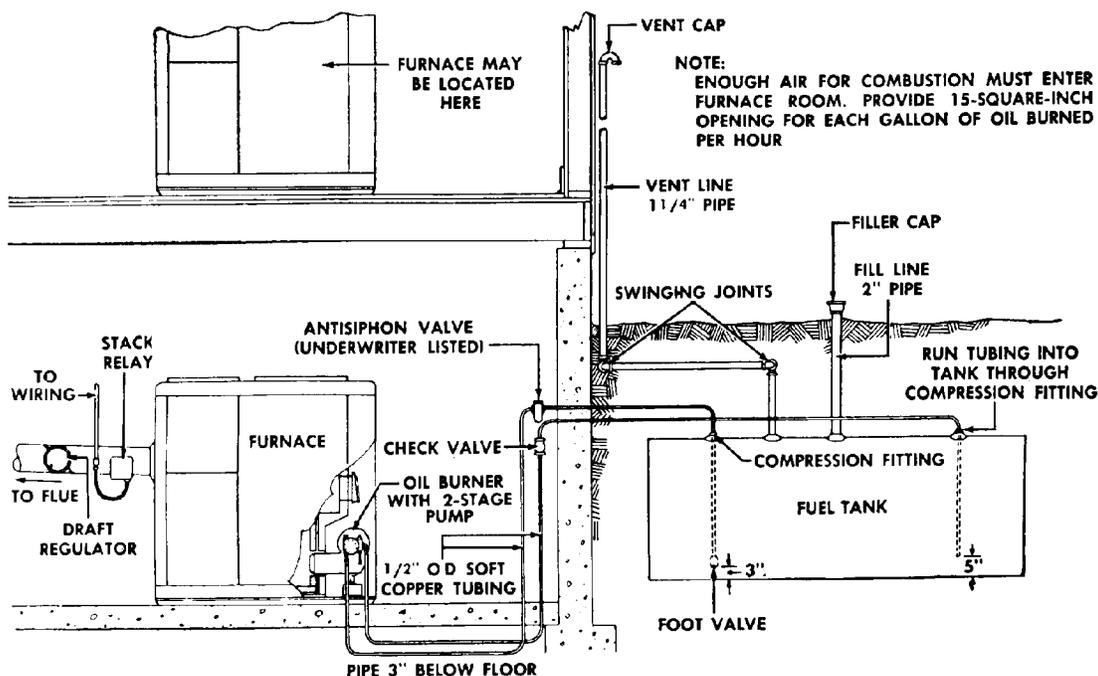

Figure 2-2. Buried oil tank installation.
d. *Underground outside tank.* Install underground outside tanks according to the following instructions and figure 2-2:
(1) Install a continuous piece of copper tubing from a point 3 inches above the bottom of the tank up through a compression fitting in the top plug, over into the basement, and into an approved check valve. Where possible, drop this feed-line inside the building to a point level with the bottom of the tank before the check valve.
(2) Use a 1/2-inch IPS straight compression connector (for 1/2-inch tubing) for running the 1/2-inch copper tubing through the tank cap. Drill out the